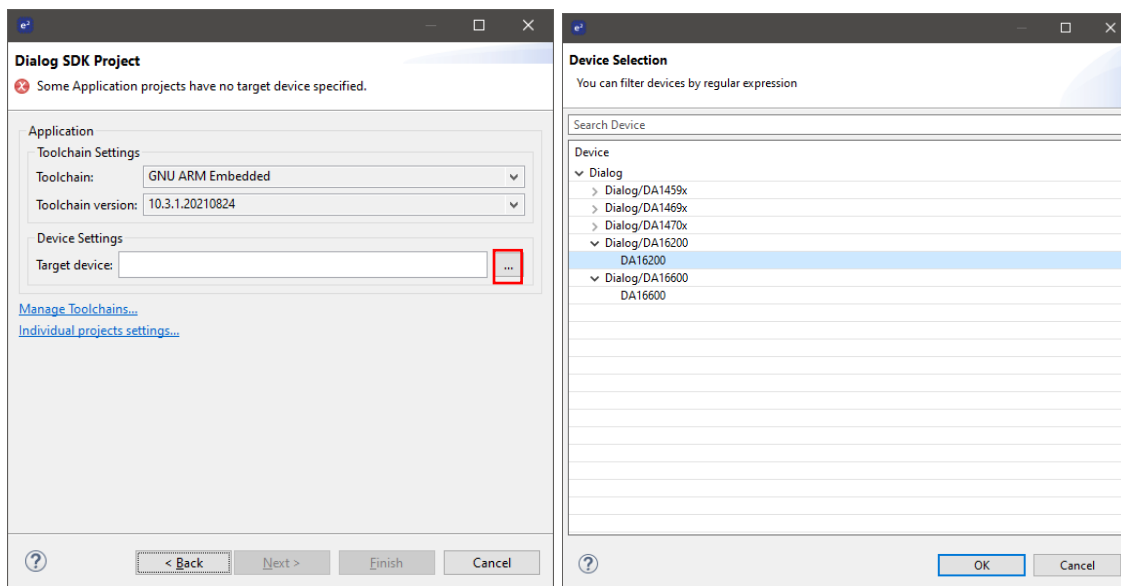

Figure 28. Dialog SDK project
- The **Dialog SDK Project** appears as shown in Figure 28. Select Target device da16200 or da16600 by choosing the  button and then click **Finish**.